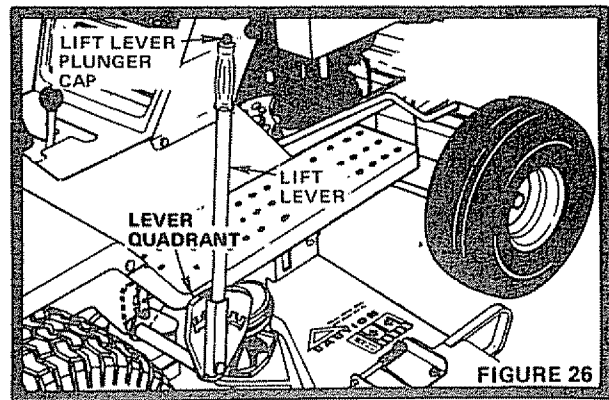

FIGURE 26
1. Depress Lift Lever Plunger Cap. Move Lift Lever (Fig. 26) to approximately the middle of notched Lever Quadrant.
5. Start mowing in the first gear and increase ground speed as conditions will permit. Average cutting height is approximately 2 - 1/2 to 2 - 3/4 inches. Height of cut can be adjusted by means of the Lift Lever (Fig. 26). Moving the Lever forward lowers the mower. Moving it backwards raises the mower. The lever latch is actuated by depressing the Lift Lever Plunger Cap at the top of the Lift Lever (Fig. 26).
2. Move Lift Lever (Fig. 26) forward to lower Mower to its lowest position.